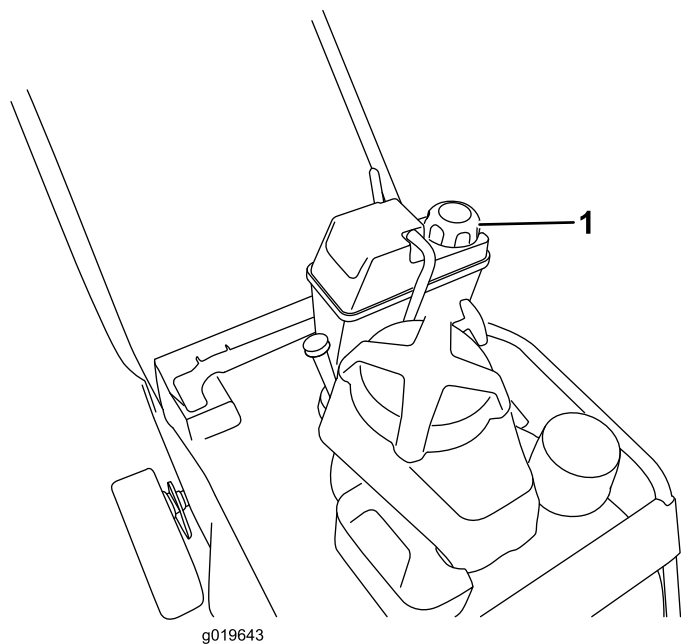

Figure 13
1. Clean around the fuel-tank cap (Figure 13).